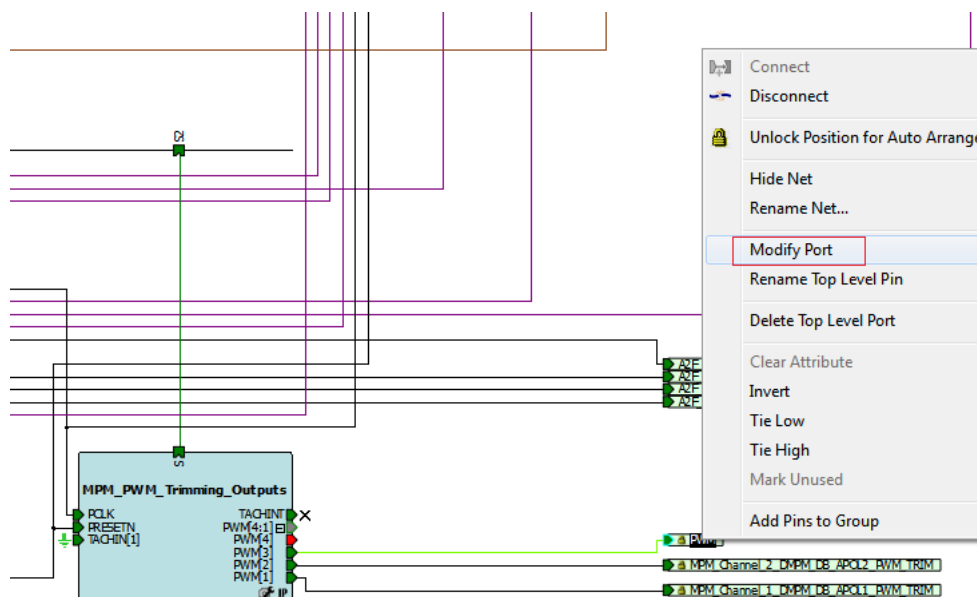
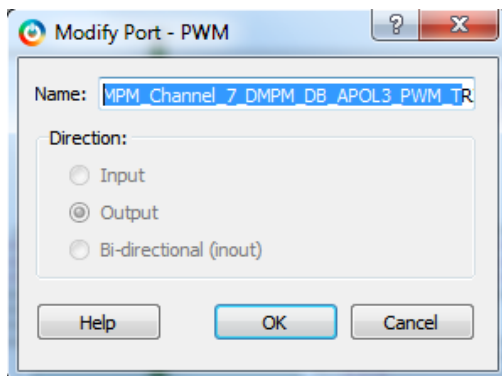

**Figure 39 • PWM[3] Clear Attribute**
**Figure 40 • PWM[3] Promote to Top Level**
5. Right-click PWM[3] to clear the attribute as shown in Figure 39 and right click PWM[3] again to Promote to Top Level as shown in Figure 40 on page 27.